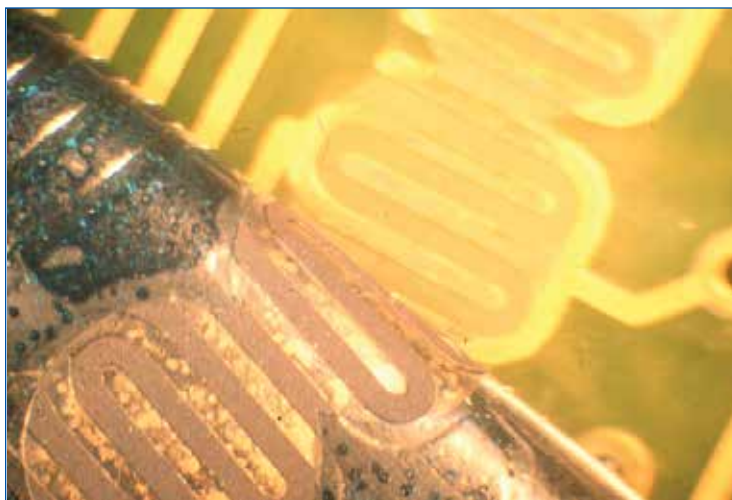

FIGURE 1. Lack of adhesion of gold to solder pads.
The stereo concept is to capture two images in a so-called stereo configuration from the same object. Thus, the two stereo images show the same scene from slightly different perspectives and are the basis for triangulation: a triangle can be spanned including the object point and the two corresponding image points. If the positions of the two image points and the camera parameters are known, the distance from the camera to the object point can be calculated from this triangle (**FIGURE 1**).
FIGURE 1. The stereo principle: The object point P is projected in both stereo images, denoted as Pr in the right and Pl in the left image. A triangle can be spanned including those three points, which is used for calculate the distance of point P. The stereo basis is the distance of the two optical centers of the stereo cameras.
In **FIGURE 1**, the peelable coating reflects poor adhesion of the gold to the surface of the pads. This problem is related to the preparation of the contact pads prior to gold or nickel plating and was not related to the assembly process or mask. Testing for gold adhesion using IPC methods showed a total lack of adhesion of the plating.
tungsten (W) is most common. Operationally, all this takes place within an evacuated environment to ensure the electrons can travel toward the target without being stopped by intervening air molecules and potentially damaging the electron-generating component. Once the x-rays have been created, they need to exit the tube housing. This is where the type of x-ray tube target impacts the available magnification. X-ray targets can either be transmissive or reflective in their style (**FIGURE 1**).
FIGURE 1. Schematic of transmissive and reflective target type x-ray tubes indicating the substantial difference in the distance of their focal spots to the exit of their x-ray windows.